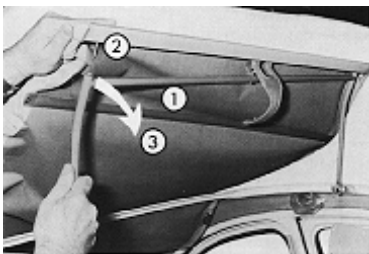

Fig. 27
Remove from the tube of the frame (1), the pins (Fig. 27, Mark 2) attached to the canvas hood, and tip over the frame towards the front (3).